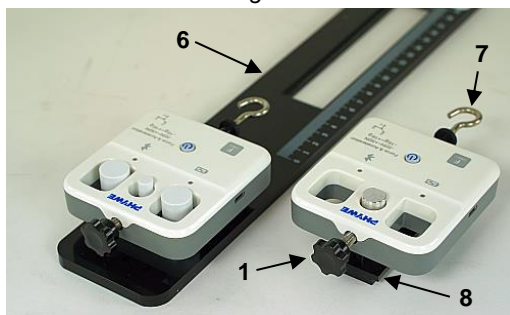

Fig. 3
sensors onto the base plates (6) and the carriage (8) using the knurled screws (1) as shown in Fig. 3.
3.2.2 Place the sensor mounted on the carriage (8) in the elongated slide rail of the base plate (6).